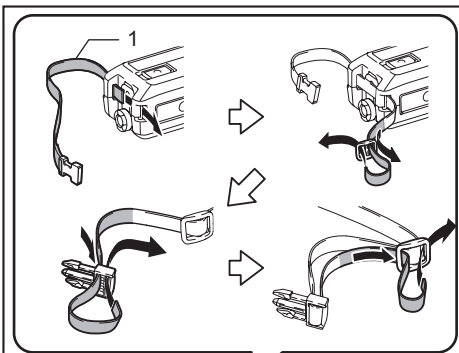

Fig.5
- **Fig.5:** 1. Band 2. Hook 3. Clamping screw